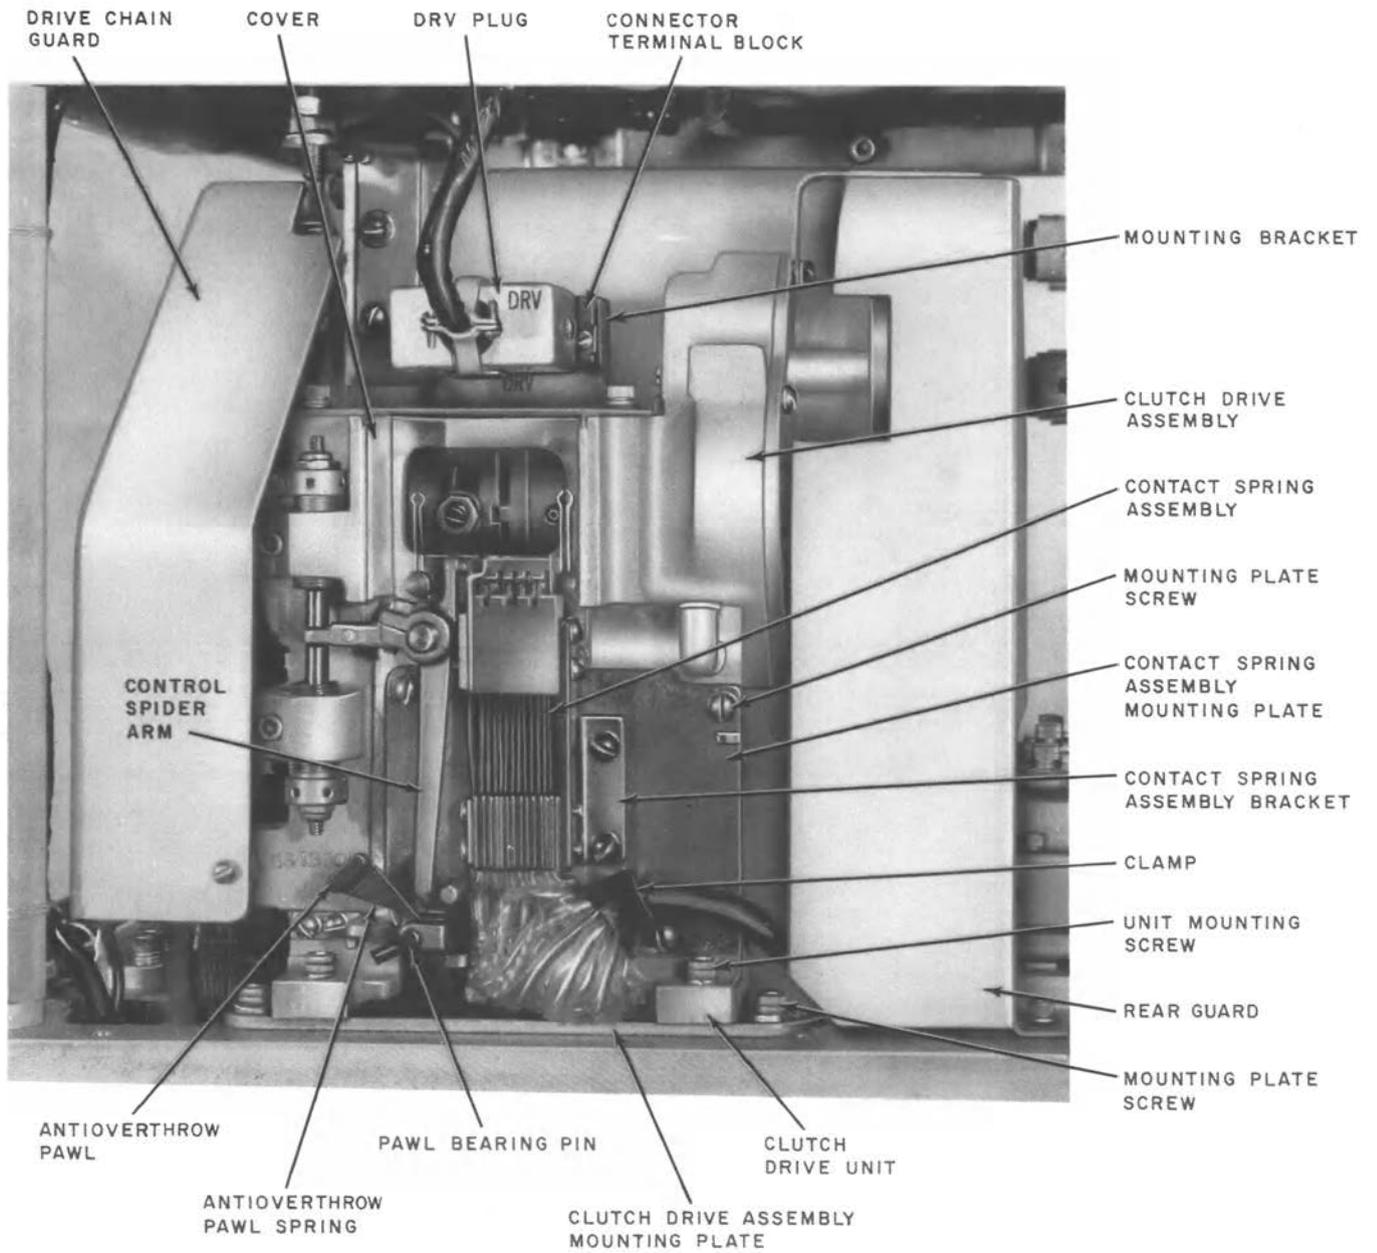

Fig. 31—KS-13906 Clutch Drive Assembly (Front View)
To replace the clutch drive assembly (Fig. 31), proceed as follows.
3.25 *Antioverthrow Pawl Spring:* To replace the antioverthrow pawl spring (Fig. 31), proceed as follows.
3.26 *Contact Spring Assembly:* To replace the contact spring assembly (Fig. 31), proceed as follows.